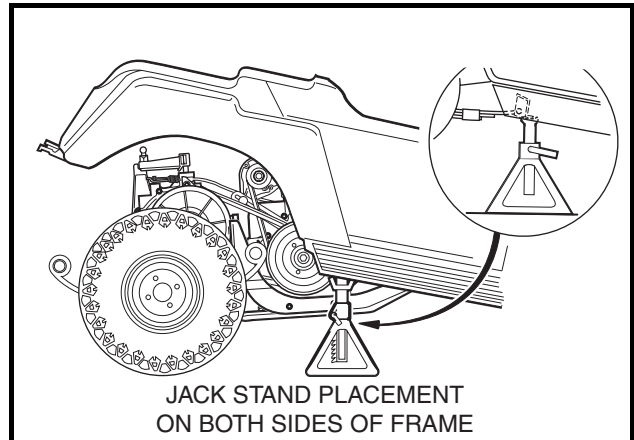

Figure 16-25 Position Jack Stands
11. Position jack stands, adjusted to support the vehicle at this height, under the frame crossmember between the leaf spring mounts and side stringers, just forward of each rear wheel. Lower the floor jack to allow the jack stands to support the vehicle (**Figure 16-25, Page 16-11**).